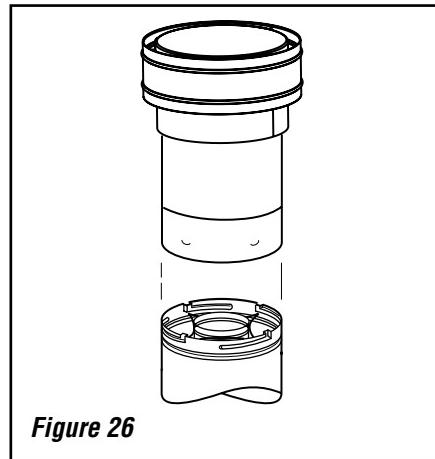

Figure 26
K. Install the vertical termination - The final Step involves installation of the SV4.5CGV-1 Vertical Termination. Extend the vent sections to the height as shown in the "Vertical vent termination section" (**Page 6, Figure 4B**). The SV4.5CGV-1 Vertical Termination (**Figure 26**) can be installed in the exact same fashion as any other **Secure Vent™** section. Align the termination over the end of the previously installed section, adjusting the radial alignment until the four locking dimples of the termination are aligned with the inlets of the four incline channels of the last vent section. Push the termination down until it fully engages, then twist the termination clockwise running the dimples down and along the incline channels until they are seated at the end of the channels.